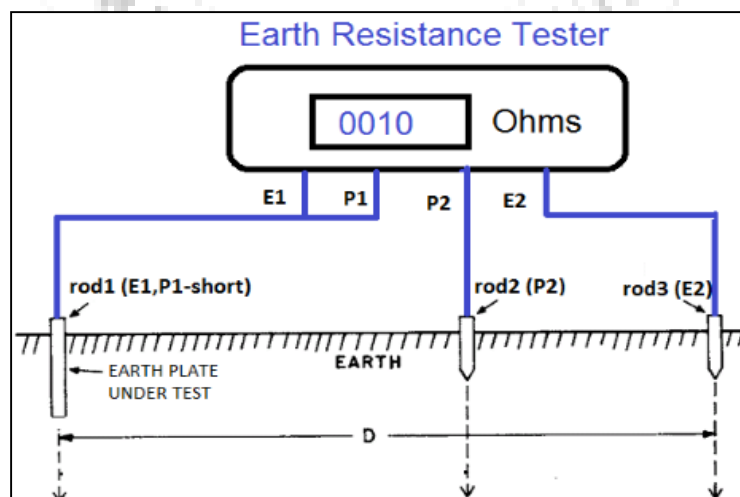

Fig. 3.3 Measurement of earth resistance
2. Terminals **E1** and **P1** are shorted and connected to the equipment earth electrode whose resistance is to be measured (as shown in Fig. 3.3).